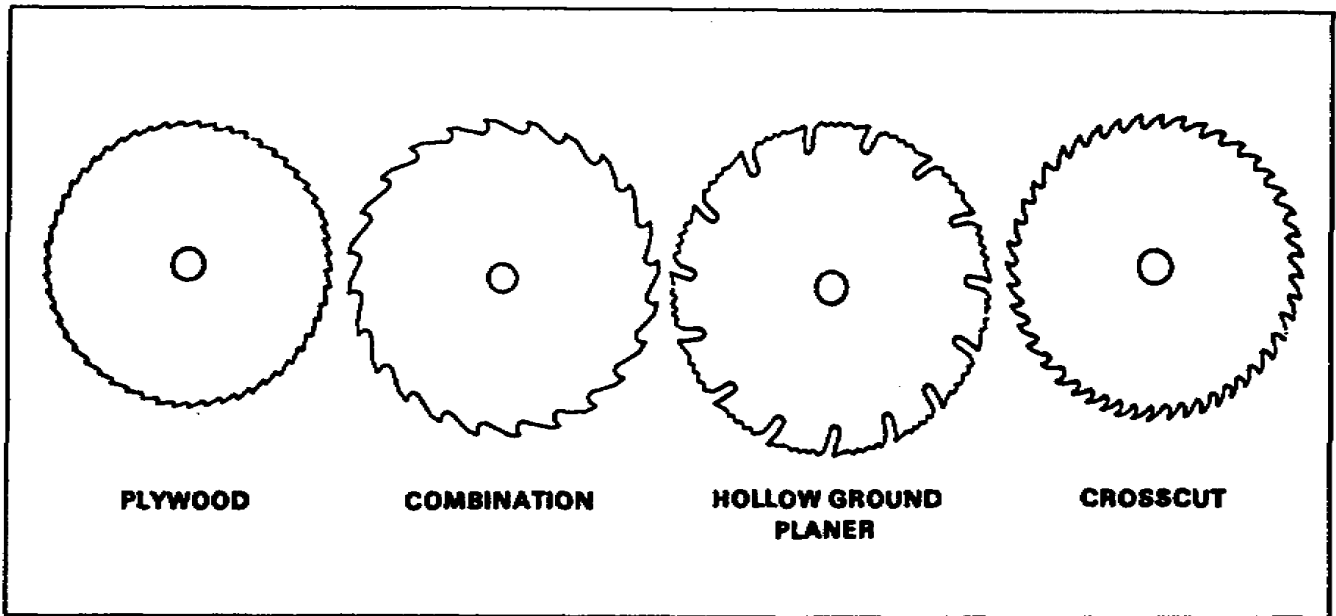

Figure 2-57. Types of blades
f. Blade Types. The four common types of blades are shown in Figure 2-57, page 2-32. The combination blade is a multipurpose blade that can be used for crosscutting or ripping.